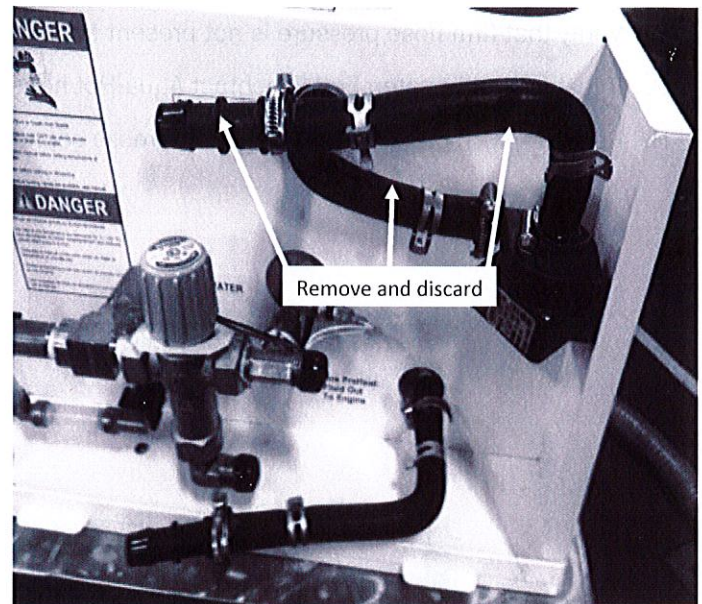

Fig 2.1
6. Remove the engine preheat hoses, hose coupler and the clamps between the pump and the Aqua-Hot. Discard these items (see fig 2.1).